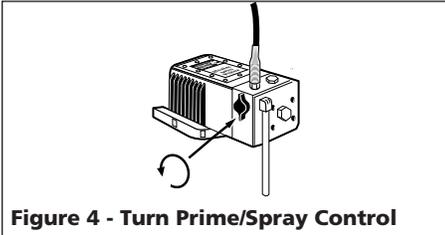

Figure 4 - Turn Prime/Spray Control
3. Turn Prime/Spray Control to the Prime position (See Figure 4).